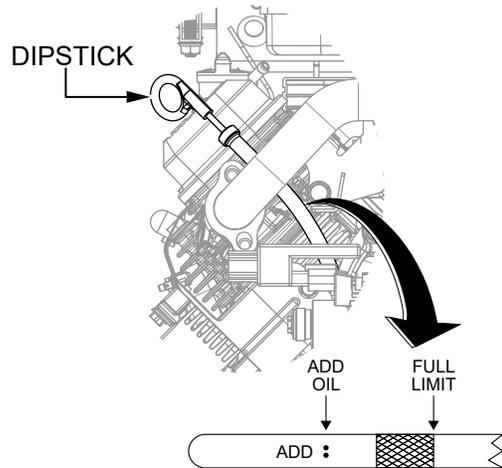

Figure 36. Engine Oil Dipstick
4. Remove the **engine oil dipstick** (Figure 36).